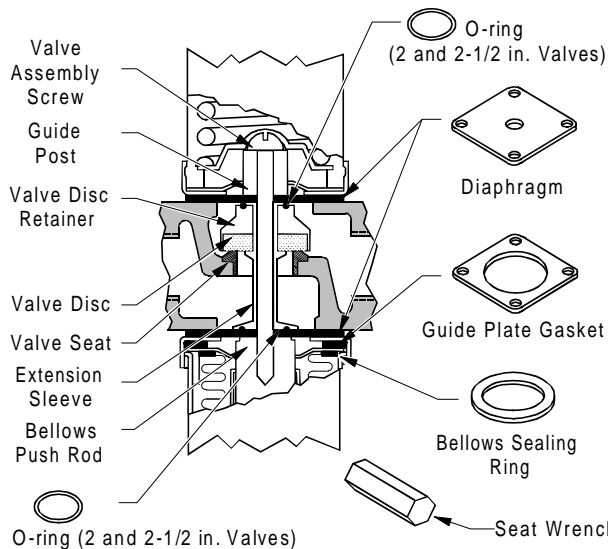

Figure 3: 246, 247, 2 in., and 2-1/2 in. Valves
4. Remove the valve assembly screw (Figure 3).
5. Remove the guide post and old diaphragms (Figure 3).
6. Remove the sensing element and the diaphragms between it and the valve body (Figure 3).
7. Pull the disc, disc retainer, and extension sleeve assembly from the valve (Figure 3).
8. Using the seat wrench supplied with the kit, remove old valve seat and replace with the new valve seat (Figure 3). (Seat wrench not provided for 2 and 2-1/2 in. valves, use 1-1/2 and 1-15/16 in. hex stock, respectively.)
14. Screw the valve assembly screw through the guide post and into the bellows push rod (Figure 3).